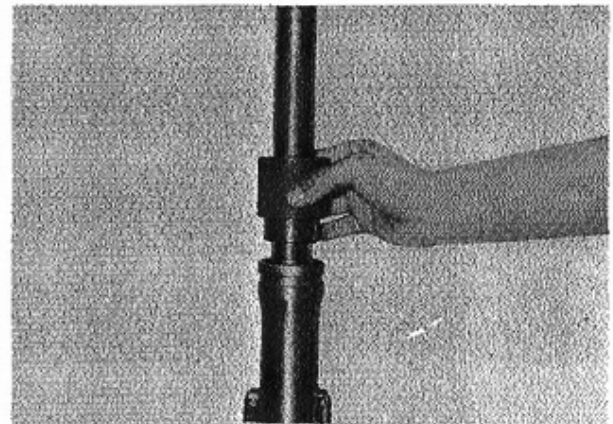

Fig. 8-1-4 Installing oil seal
- 2) When installing the front fork oil seal, hit it with the special tool (09940-53110) as shown in Fig. 8-1-4.